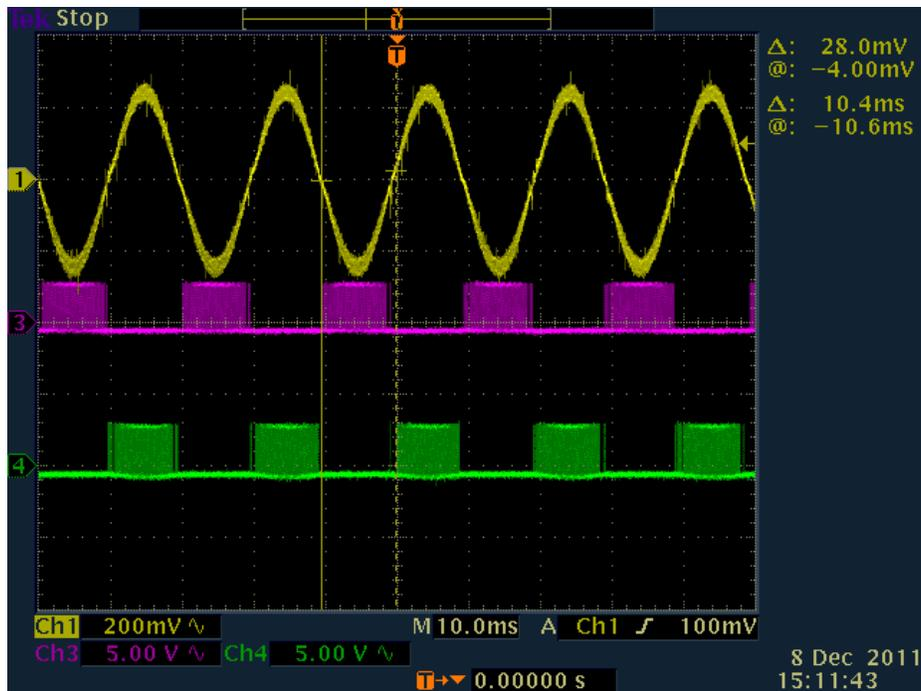

Fig 27 Unipolar Modulation for full bridge inverter, Ch1: Vac-FB, Ch3: PWM-H1, Ch4: PWM-H2
30. Fig 27 shows a captured plot of these signals along with the output voltage Vac-FB. Note that one PWMs are modulated in unipolar fashion, with one set H/L PWMs switching in one half cycle and other set in the other half cycle.